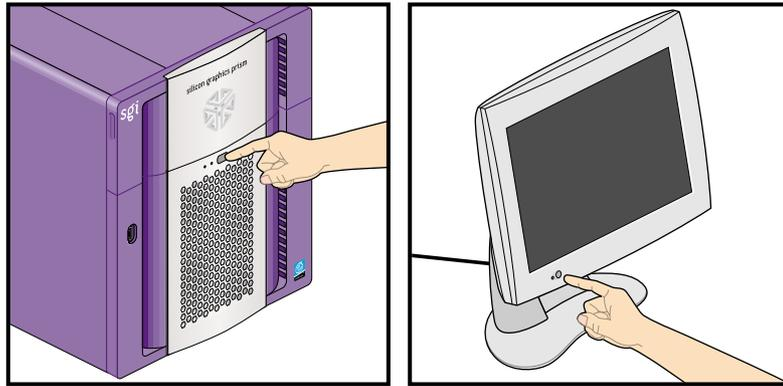

Figure 1-10 Example of Powering Off the System Using the Front Power Button
2. Press the power button, as shown in Figure 1-10.